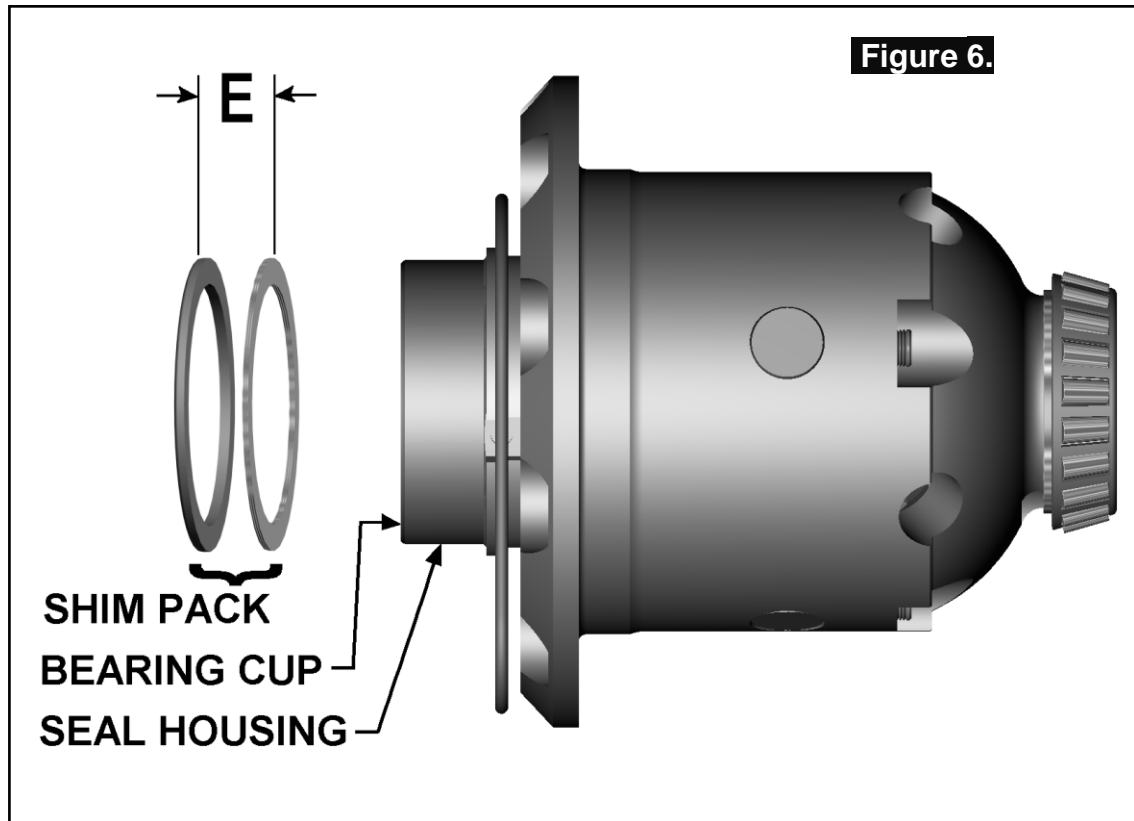

Figure 5.
- Using a bearing press or arbor press, press one of the bearing cones which was removed from the original differential onto the bearing journal (as shown in Figure 5.) until the bearing seats firmly against the bearing journal shoulder.